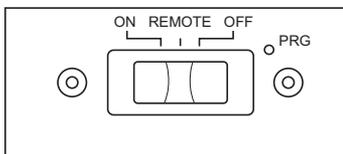

Figure 39 - Remote Selector Switch in ON Position
10. Wait one minute and switch selector switch to the ON position to light burners (see *Figure 39*). When using in the ON position (without remote) burners will light on high. There is no adjustment to the flames without using remote.